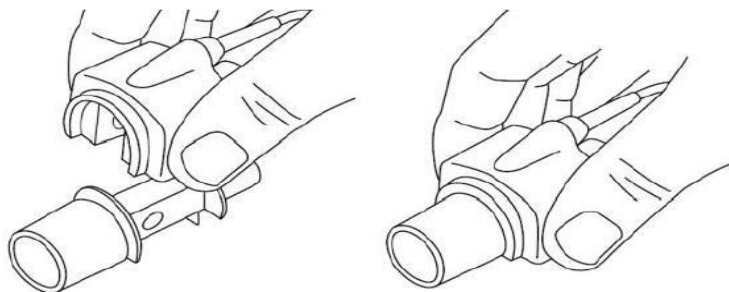

Figure 18.10 – Connection of sensor to adapter
2. Insert the sensor into the patient adapter (see Figure 18.10). If connected correctly, a click should sound.